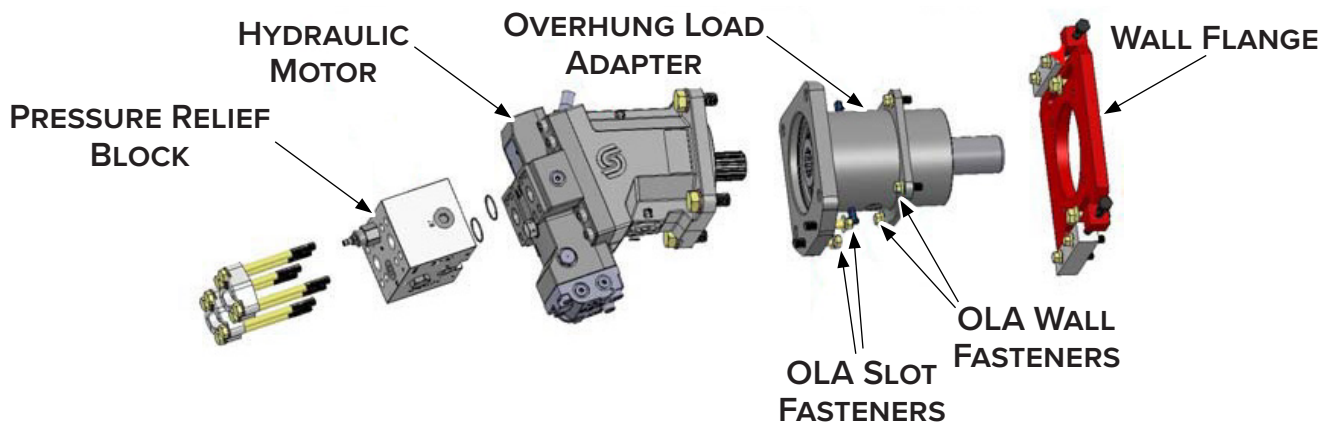

Figure 34
2. Remove all hydraulic hoses off the hydraulic motor and pressure relief block. The fasteners on the pressure block also hold the block onto the hydraulic motor. See Figure 34.
3. Remove all four (4) fasteners to separate the hydraulic motor from the overhung load adapter.
6. Remove all four (4) overhung load adapter wall fasteners to separate the overhung load adapter from the wall flange.